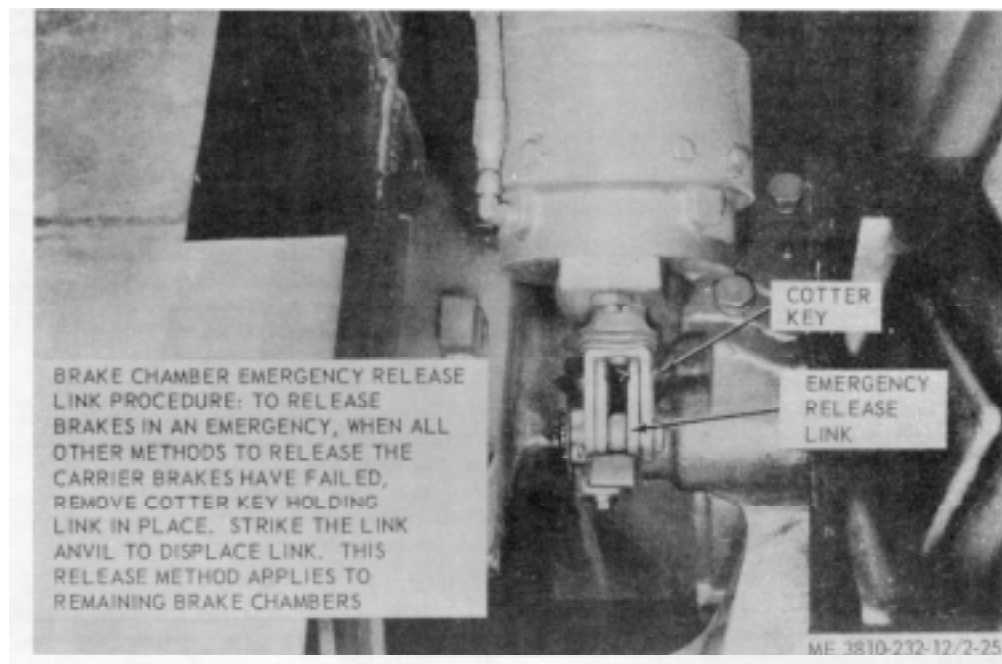

Figure 2-25. Brake chamber emergency release link (model 2385).
(7) Should the crane carrier brake system be damaged and inoperative (hole in reservoir, broken lines, etc.), an emergency measure to release the brakes, after all other known methods have failed, may be followed as illustrated in figure 2-25.